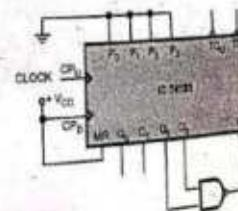

Fig. 5.12.17 Mod-12 up counter
**Solution :** Fig. 5.12.17 shows the timing diagram for 74193.